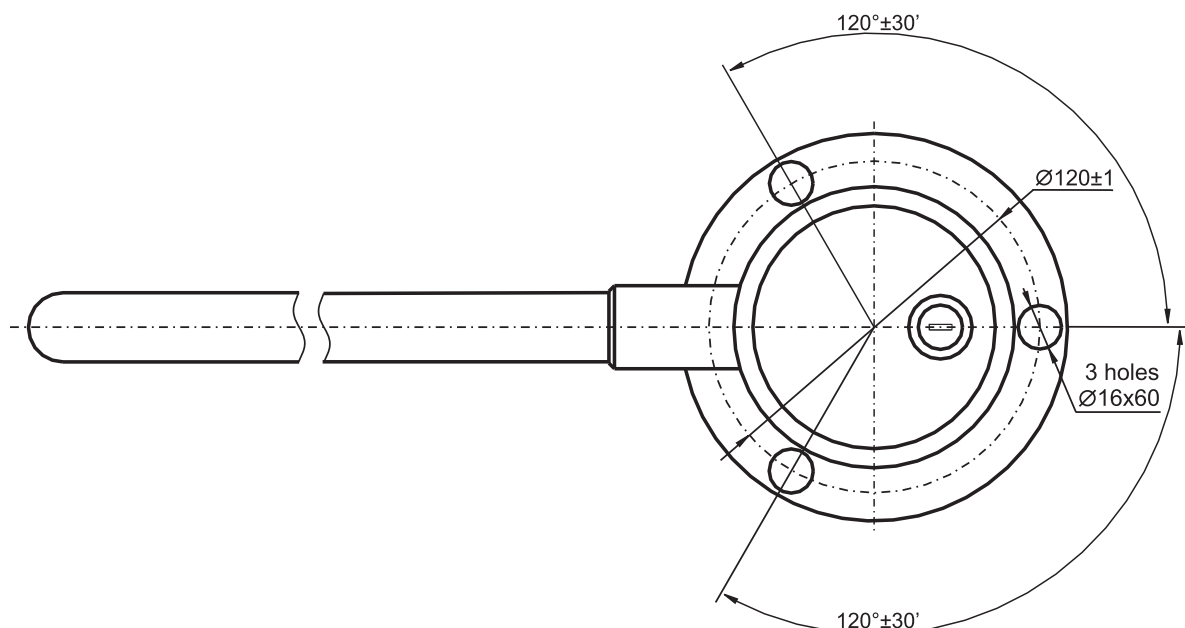

Figure 5. Mounting hole pattern
- to mark the mounting holes according to the enclosed installation instructions (see Fig.5);
- prepare mounting holes according to the Figure 5;
- prepare electric raceways for the control cable (10) and the power cable (11);
- lay out the control cable (10) and the power cable (11) from the control unit to the gate post (1);
- take the cable connector block (16), mounted on the spring pins, out of the stationary post with flange (2);
- connect the control cable and the power cable to the cable connector block (16);
- install the cable connector block (16) into the stationary post with flange (2) at height suitable for further installation;
- install the gate post (2) upright into the run position (it is recommended to use joint liners if need be);